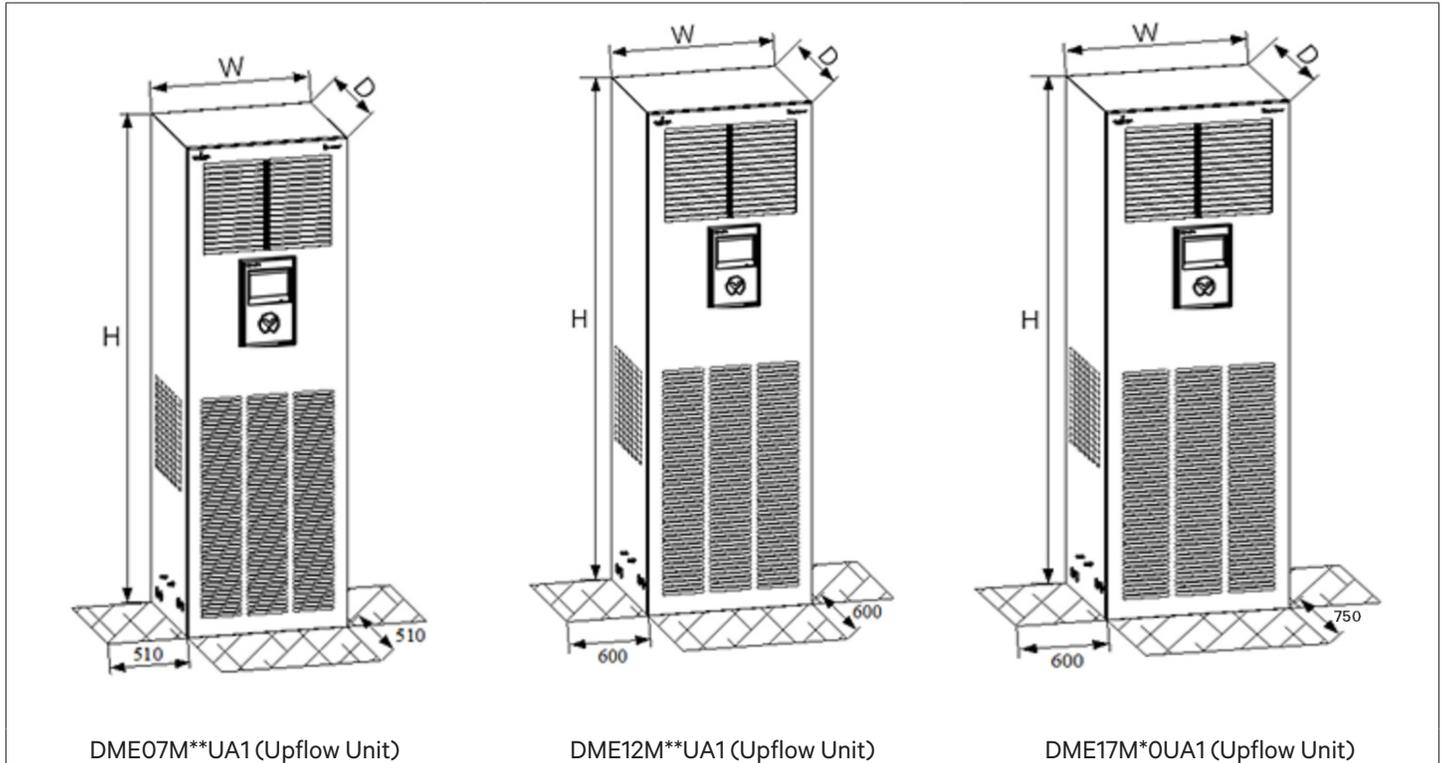
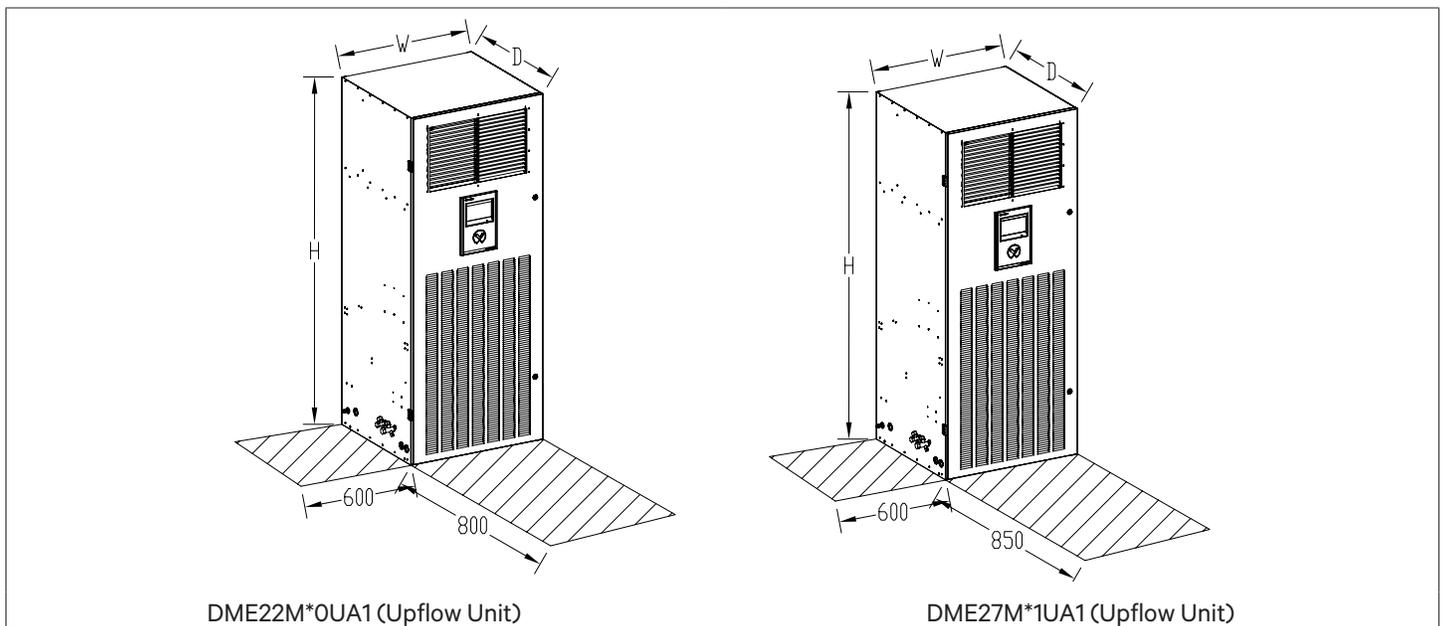
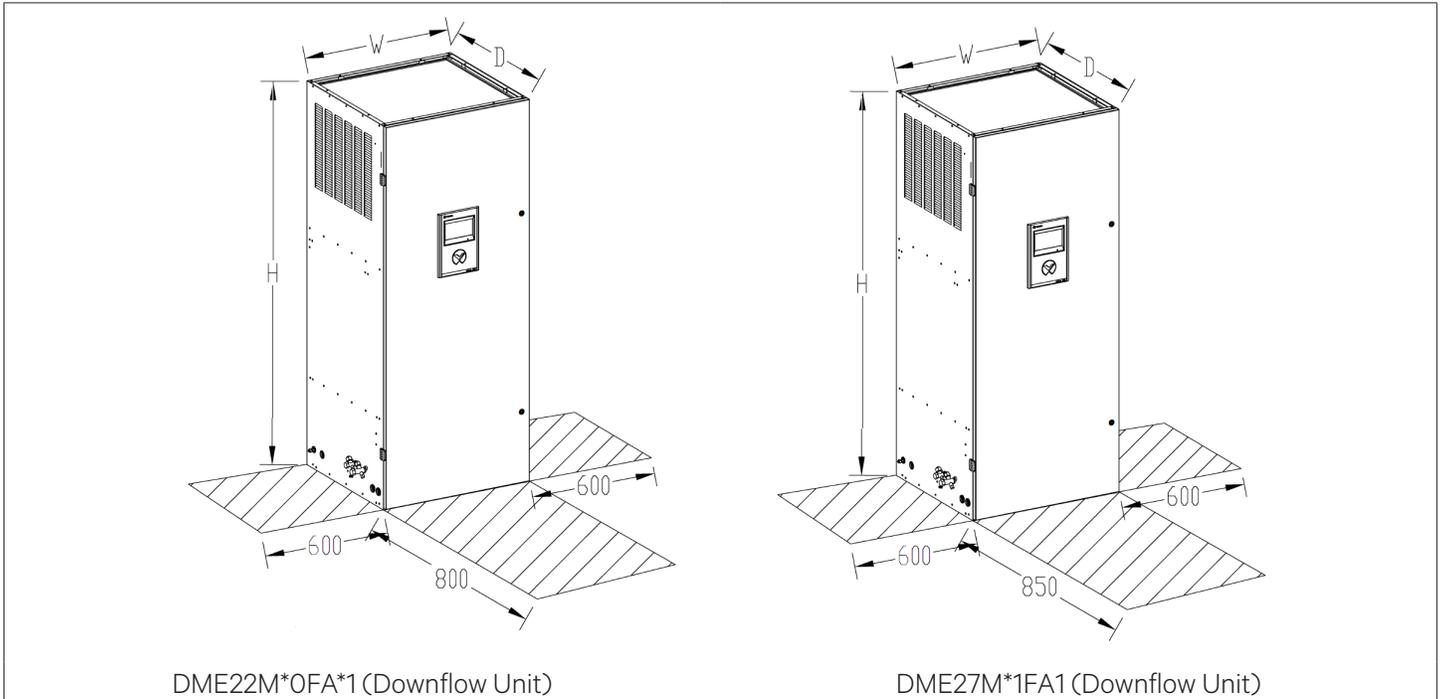

Figure 2-4 Vertiv™ Liebert® DM Indoor Unit (07 kW, 12 kW and 17 kW)
Figure 2-5 Vertiv™ Liebert® DM Upflow Indoor Unit (22 kW and 27 kW)
Figure 2-6 Vertiv™ Liebert® DM Downflow Indoor Unit (22 kW and 27 kW)
The dimensions and operational weight of the indoor units are represented in Figure 2-4 , Figure 2-5 & Figure 2-6 and Table 2-1 respectively.
- The maintenance space required for the upflow and downflow indoor units are shown in Figure 2-4, Figure 2-5 and Figure 2-6 respectively.